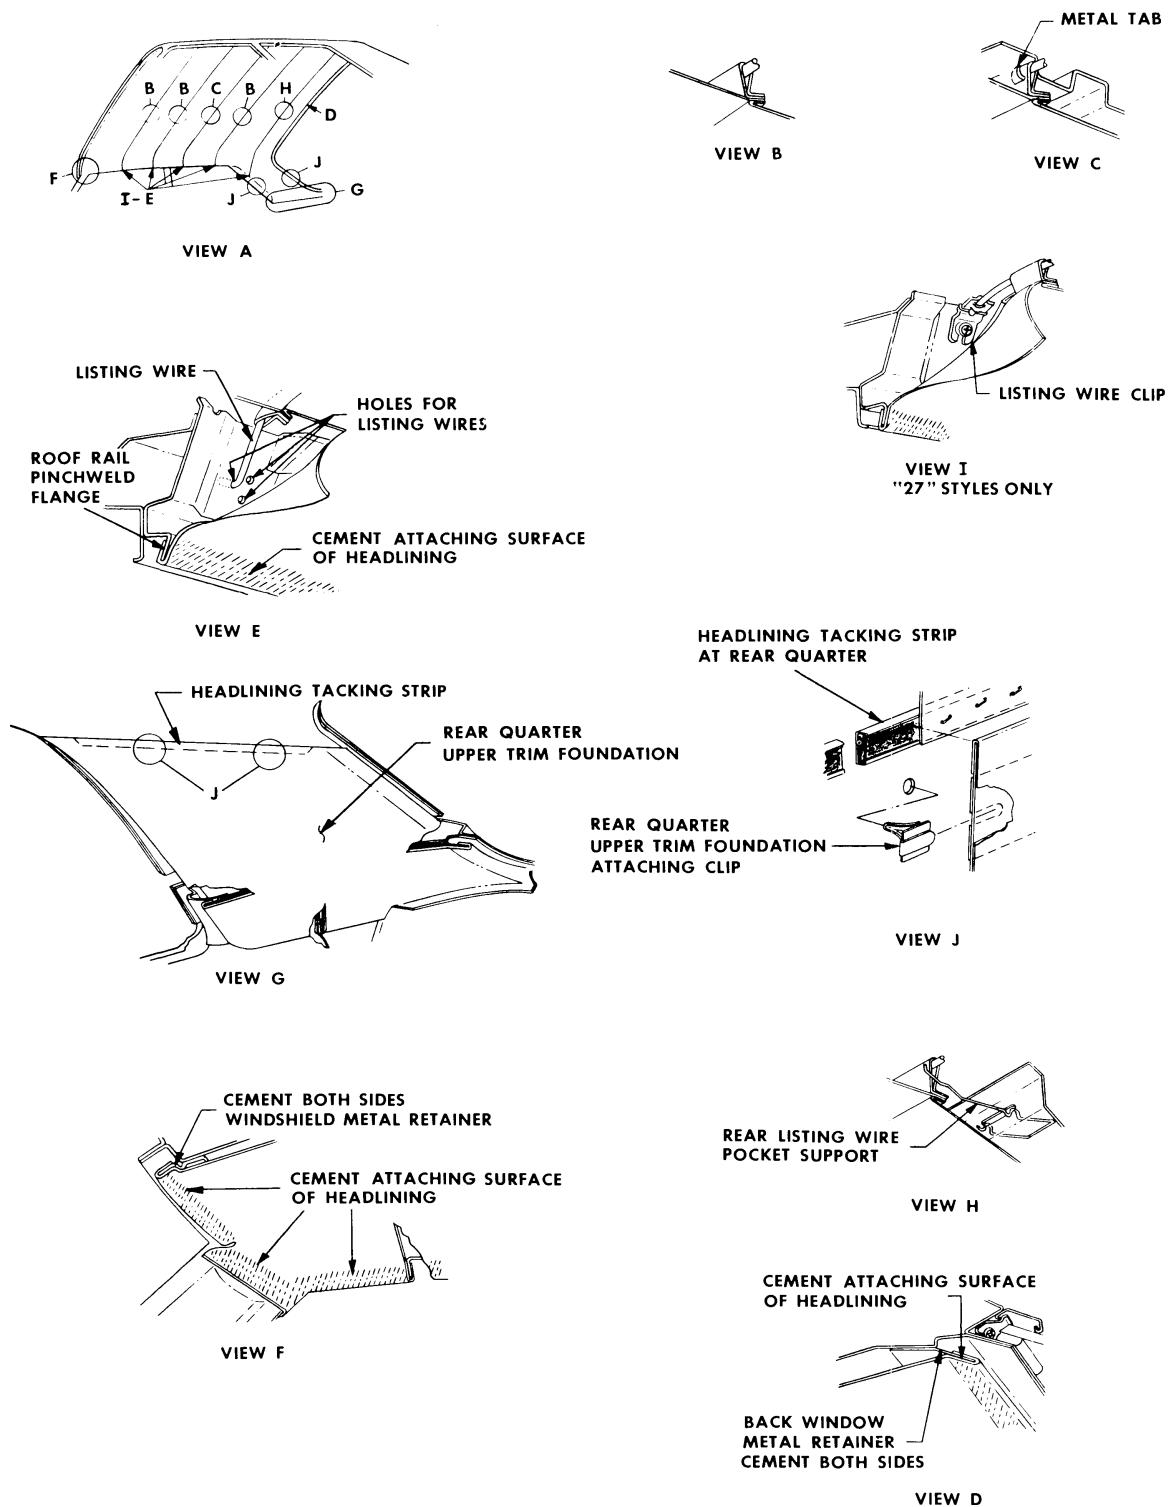

Fig. 16-1 Headlining Installation
The headlining is formed to the contour of the roof panel by concealed listing wires. Both ends of the wires are installed in holes in the side roof rails on all styles except 27. On 27 styles, the listing wires are installed in holes in the side roof rail on the left side and into clips on the right side. The headlining material is cemented around metal retainers at the windshield and back window or body opening. The sides of the material are cemented to the roof side inner rail pinchweld flanges. On 45 styles, the rear quarter material is cemented to the body lock pillars and rear window or back body opening pinchweld flanges. On 27 and 69 styles, the headlining is attached to a tacking strip at the rear quarter area by tacks or staples (view J, Fig. 16-1). Finishing lace, rear quarter finishing moldings, two rear quarter trim foundations, and pillar trim plates cover the headlining material edges and assist in holding the material in place.
- f. Loosen rear quarter upper trim foundation by prying upper foundation fasteners loose from roof extension inner panel (view J, Fig. 16-1). Fold trim foundation down on rear compartment shelf.
4. Working from front to rear of body, disengage headlining listing wires from side roof inner rails except 27 styles. On 27 styles remove listing wires from left side rail holes and clips on right side (view I, Fig. 16-1). Gather or roll headlining with listing wires on outside to keep headlining clean.
5. At No. 3 and 6 roof bows, bend down metal tabs securing listing wires and listing wire pockets (view C, Fig. 16-1 and Fig. 16-2). Remove listing wires and pocket from support (view H, Fig. 16-1).
openings. Cement must be applied to both sides of headlining retainers (views D and F, Fig. 16-1 and Fig. 16-2).
5. Lift headlining into body and install rear listing wires in side roof rails except 27 and 37 styles (view E, Fig. 16-1, and Fig. 16-2). On 27 styles, install listing wires in left side roof rail and attach right side by clips. (view I, Fig. 16-1).
6. Center and align headlining in relation to back body opening and side roof rails. On 27 and 69 styles, insert rear listing wire support through listing wire pocket (view H, Fig. 16-1).
8. Install headlining listing support wire over metal tabs on roof bow. Bend up tabs so that support wire is securely fastened to roof bow (view C, Fig. 16-1 and Fig. 16-2).
12. Trim excess material from edges of headlining, at windshield, back window and around rear quarter areas except 27 and 69 styles. On 27 and 69 styles tack headlining to rear quarter trim stick (view J, Fig. 16-1).
13. Using a headlining inserting tool, install trimmed edges of headlining to outer surface of side roof inner rail and at windshield and back window retainers to give headlining a finished appearance (views D, E and F, Fig. 16-1 and views D, E and F, Fig. 16-2).